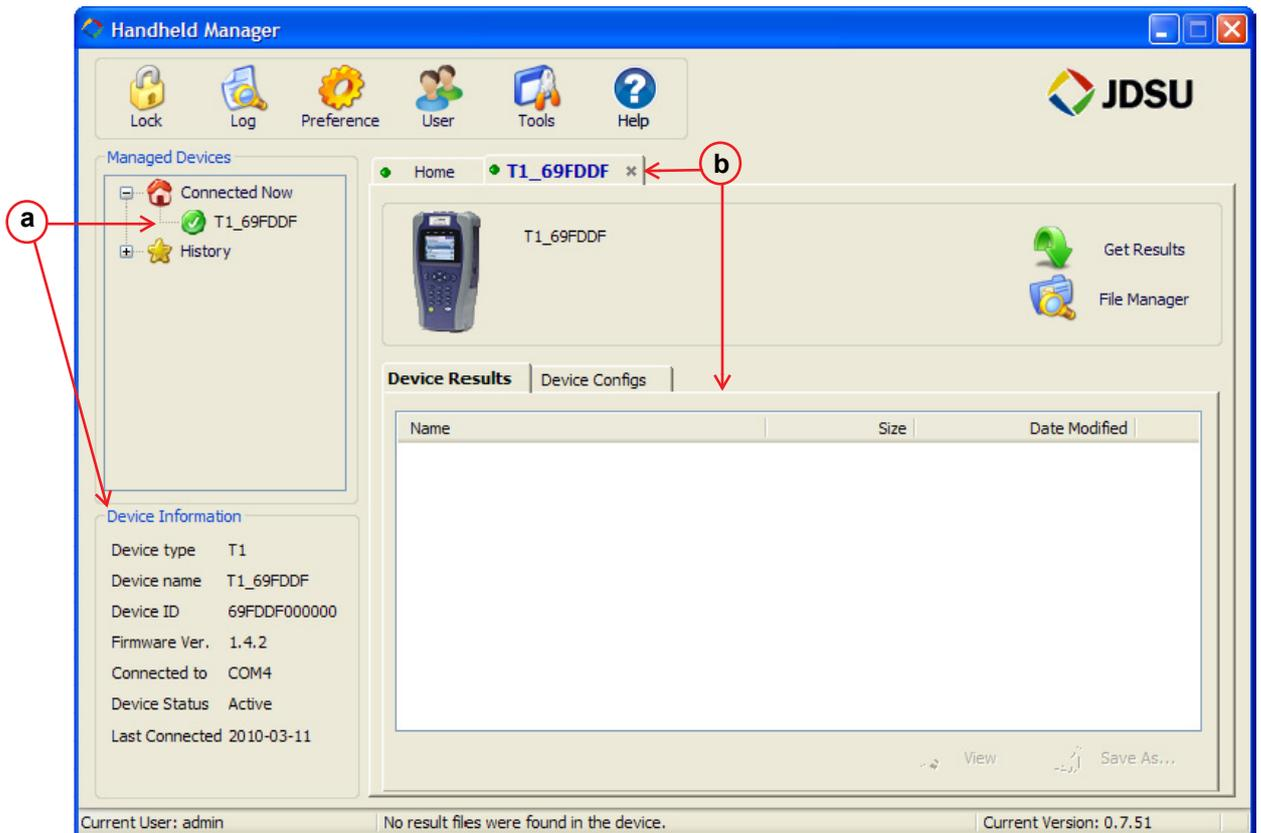

Figure 2 Connected unit is detected
- 3 If you haven't already done so, switch your device's power to ON. The Handheld Manager will detect the unit and, as shown in Figure 2, two things happen: